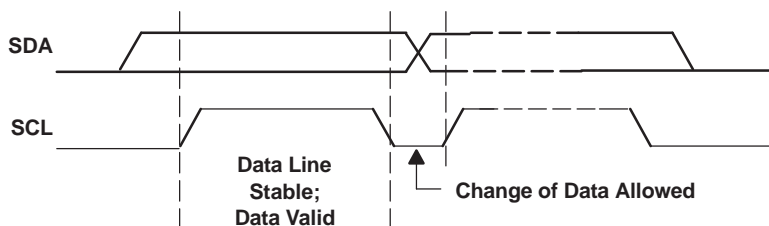

Figure 43. Bit Transfer on the I²C Bus
- Data is transmitted over the serial bus in sequences of nine clock cycles (8 data bits followed by an acknowledge bit). The transitions on the SDA line must occur during the low period of SCL and remain stable during the high period of SCL (see Figure 43).